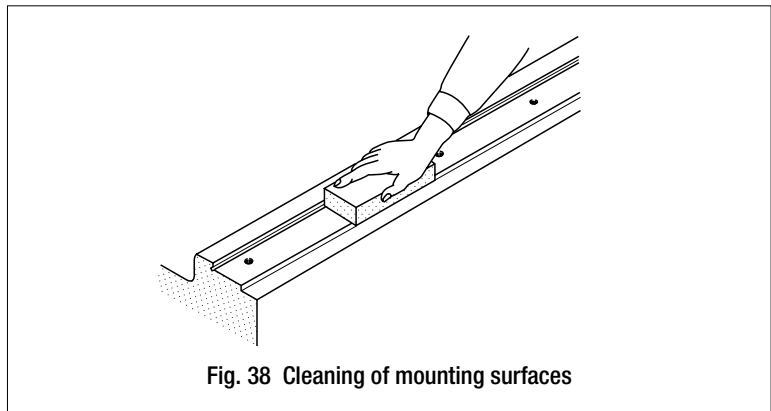

Fig. 38 Cleaning of mounting surfaces
① Cleaning of mounting surfaces
- Remove burrs and blemishes from reference mounting surfaces and mounting surfaces of the machine using an oil-stone, etc., and then wipe the surfaces with clean cloth. (See Fig. 38.)